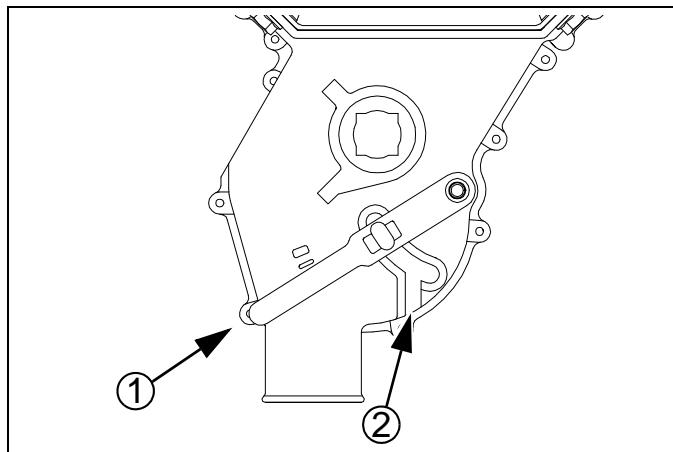

Figure 44
*Refer to Figure 44, which depicts the seed cup door handle ① in a normal operating position.*
1. Set the Seed Rate Handle to zero (0). This moves the seed cup sprockets out of the seed path.
3. At the seed cup for that row, pull the door handle ① out of the operating detent range, and swing it down to position ②.